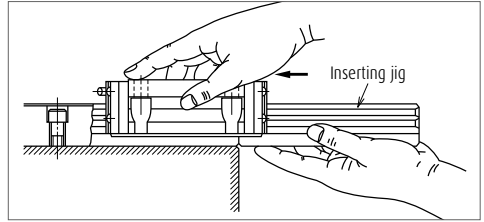

Fig. 10.27
- > If it is unavoidable to remove slides from the rail, make certain to use a provisional rail (a jig used to insert a slide to the rail) as shown in **Fig. 10.27**.